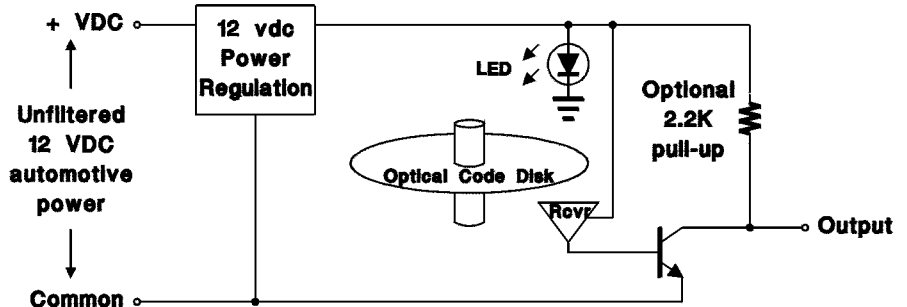

Figure 1 - NPN Transistor Output
**Output Circuits:** (See Figures 1 & 2 below)